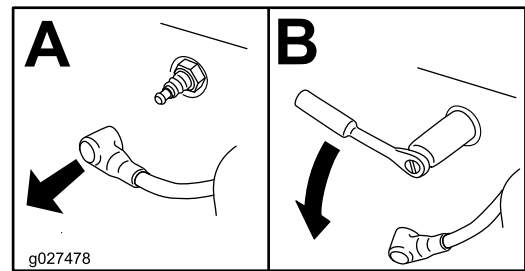

Figure 33
3. Remove the spark plug (Figure 33).